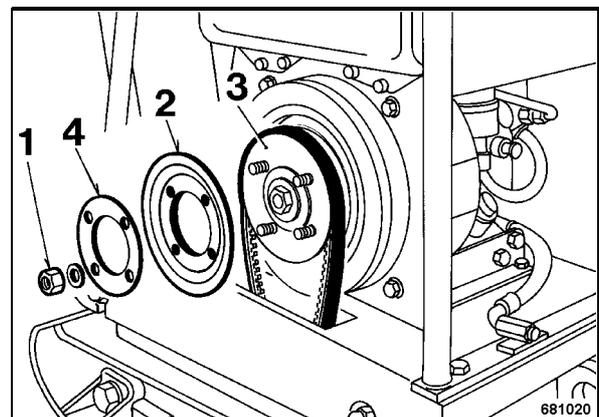

Fig. 65
- Unscrew the fastening nuts 1 (Fig. 65) with washers, take the V-belt pulley half (2) off.
- Remove the necessary number of shims (3) from between the pulley halves.
- Put the V-belt pulley half (2) back on and add the removed shims (4) from the outside.